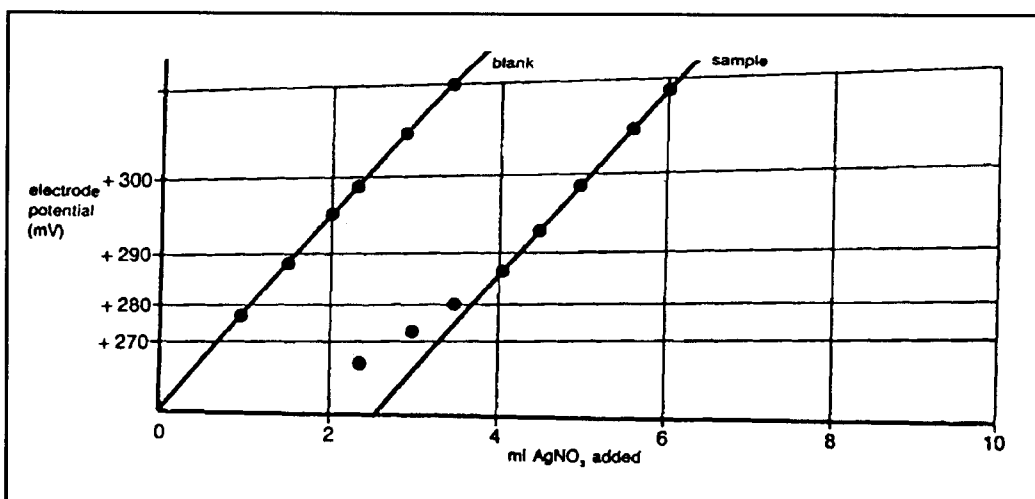

Figure 4. Gran's Plot Titration of Chloride Sample With  $\text{AgNO}_3$ , Using a Silver Electrode
7. After drawing a straight line through the points, the line should intersect the horizontal axis at 0 mL. (See Figure 4.)